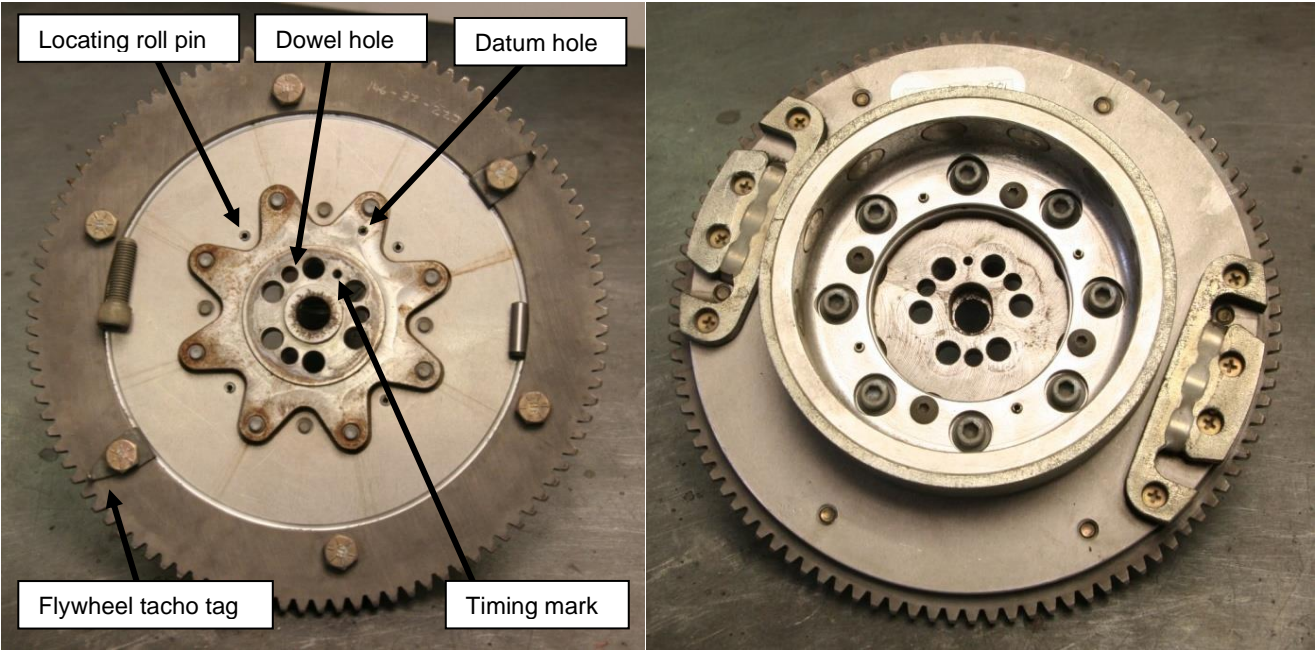

Figure 151 – Flywheel Assembly
- Dome-head screws are used in the alternator magnet housing (Figure 151, right). This provides clearance from the stator – if normal socket head screws are used here alternator damage will result.
- Solid Pole Plates (shown Figure 151) are fitted with 1/2" 10-32 countersunk screws.